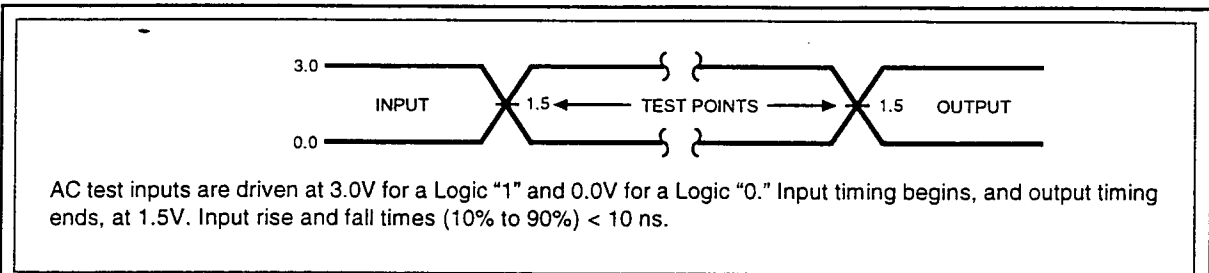

Figure 4. Transient Input/Output Reference Waveform ($V_{cc} = 5.0V$)
1. See AC Input/Output Reference Waveforms for timing measurements, Figure 4.